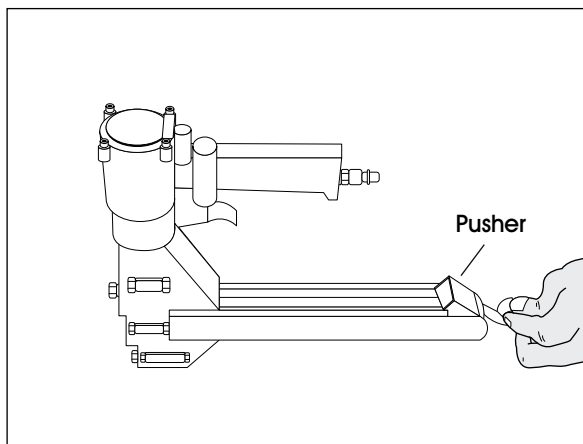

Figure 1
2. Pull the pusher back until it stops on pusher pivots. Rotate pusher to position. (See Figure 1)